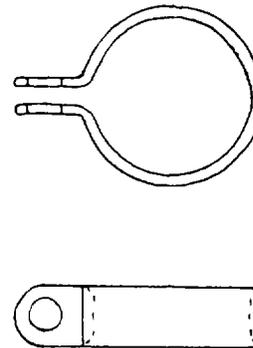

Figure 2-42. Loop-Type Bonding Clamp
(1) *Loop-type bonding clamp.* A plain metal uncushioned clamp, as shown in figure 2-42, which bonds metal tube to the airframe.